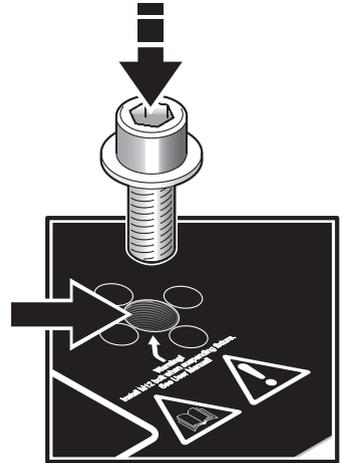

Figure 3: M12 bolt in fixture base
2. See Figure 3. Fasten the supplied M12 Allen bolt and washer into the threaded hole in the center of the bottom of the fixture base.